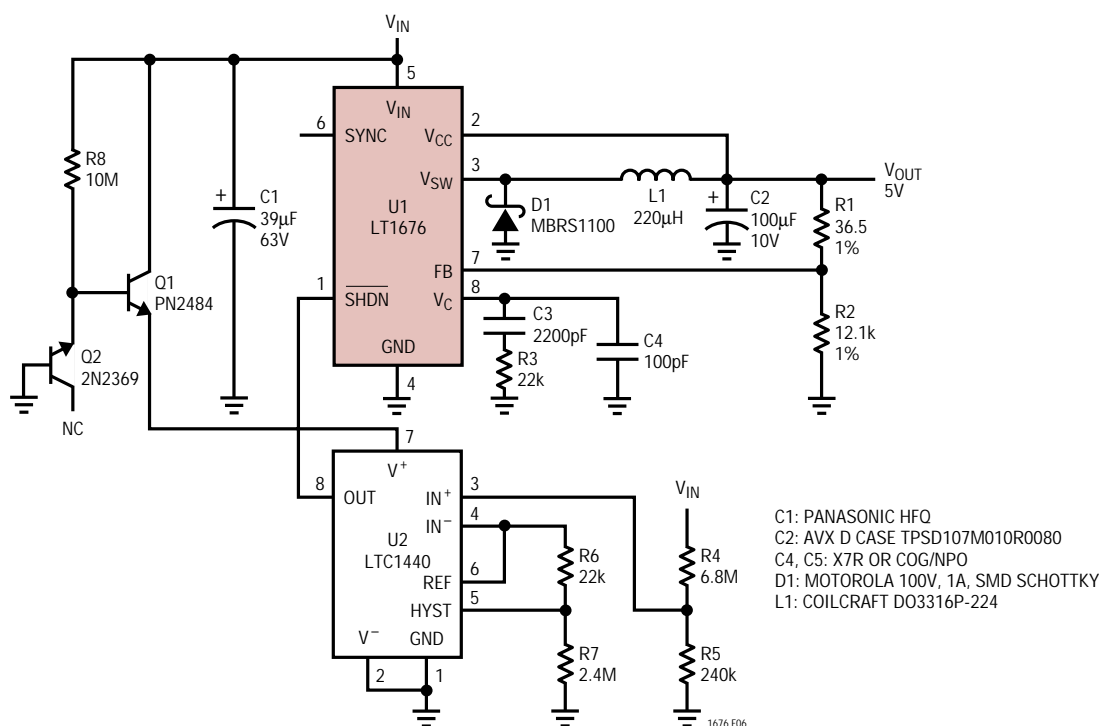

Figure 6. Micropower Undervoltage Lockout
Certain applications may require very low current drain when in undervoltage lockout mode. This can be accomplished with the addition of a few more external components. Figure 6 shows an LTC[®]1440 micropower comparator/reference added to control the LT1676 via its SHDN pin. The extremely low input bias current of the CMOS comparator allows the impedance of the resistor divider R4/R5 to be increased, thereby minimizing power drain. Hysteresis is externally programmable via resistor divider R6/R7. The LTC1440 output directly controls the LT1676 via its shutdown pin, driving it to either 5V (ON) or 0V (Full Shutdown). A simple linear voltage regulator to power the LTC1440 is provided by Q1, Q2 and R7. Just below the UVLO threshold, nominally 43V, total current drain is typically 50 μ A.